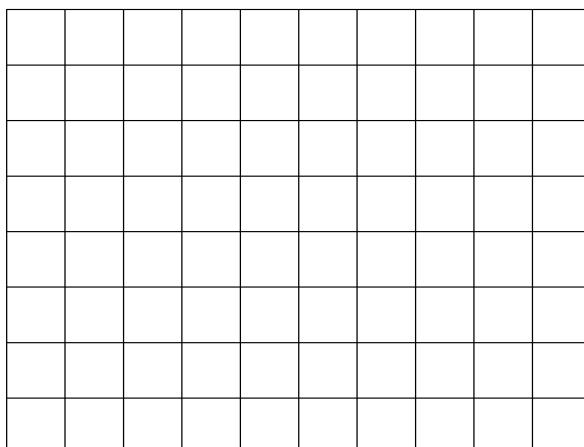

Figure 5
- Draw the voltage waveform across the diode (V_D) in detail on the axis in Fig. 5 and record the voltage value next to V_p . (peak voltage).